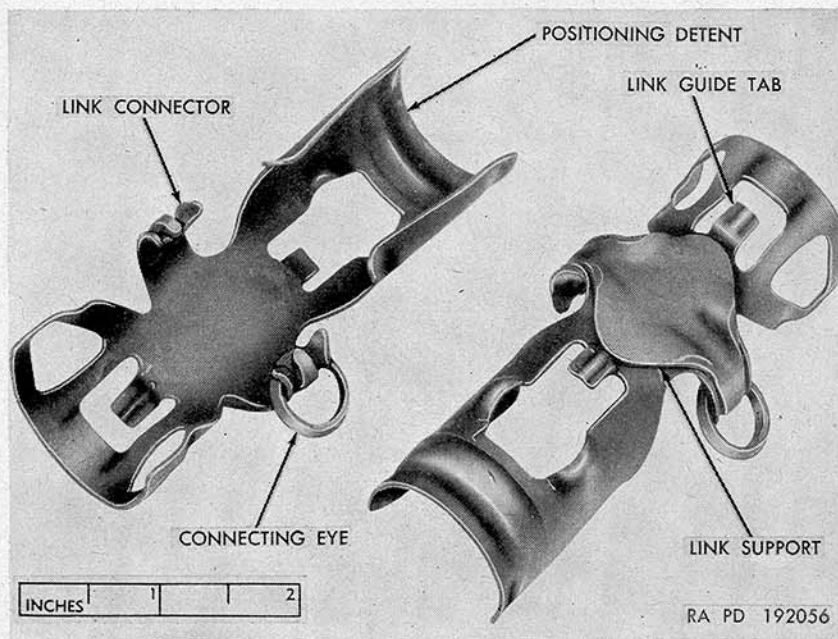
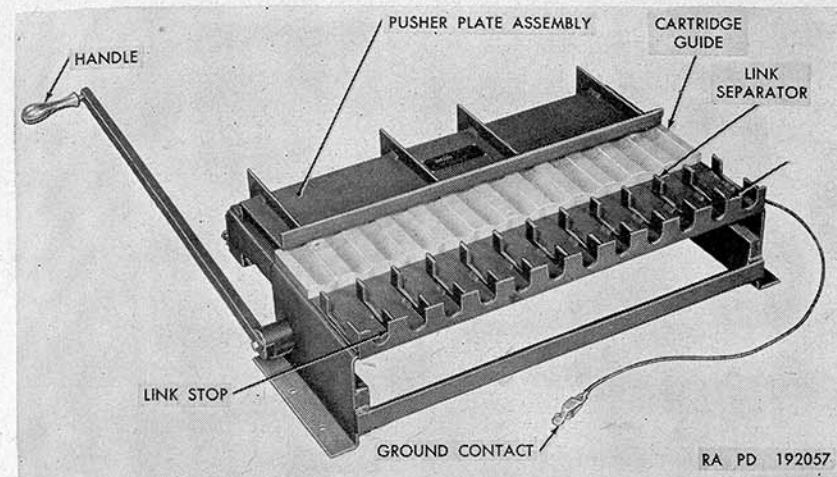
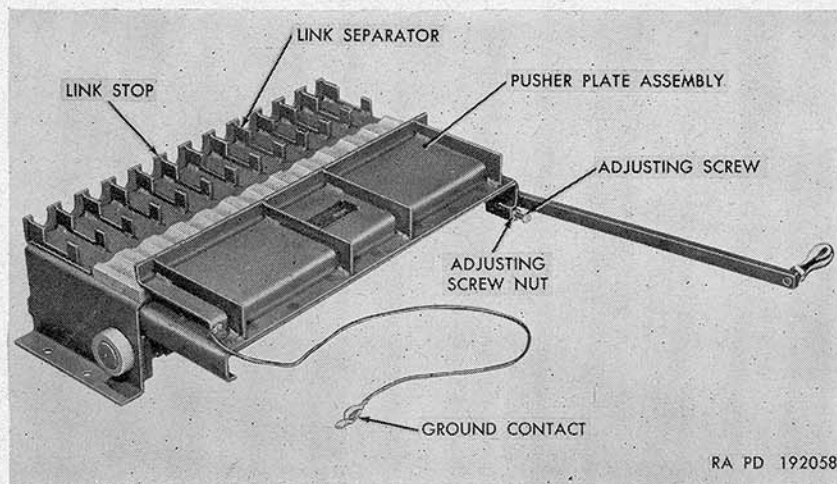

Figure 16. Metallic link T61E2—top and bottom view.
Figure 17. 20-mm and cal. .60 linking machine T38—front view.
Figure 18. 20-mm and cal. .60 linking machine T38—rear view.
a. General. Belts for the 20-mm weapon and the cal. .60 weapon are made up of metallic links T61E2 (fig. 16). There is no difference in the belting procedure for left-hand or right-hand feed. In belting for right-hand feed however, remove the connecting eye from the link of the first round. This is to prevent the possibility of a jam in the feeder sprockets. The belting operation is performed on the linking machine T38 (figs. 17 and 18).
- (1) Inspect all links for rust, dirt, or deformation. Before using, dip links in preservative lubricating oil (special) and drain off the excess. Dip a clean wiping cloth in preservative lubricating oil (special) and wring it out; oil the cartridge cases with it, being careful not to oil the primer or the point where the case is crimped to the projectile.
- (2) Connect the linking machine ground contact (figs. 17 and 18) to some suitable metallic object such as a pipe or radiator.
- (3) Lay 12 empty links T61E2 across the forward end of the linking machine so that each link is separated by a link separator (figs. 17 and 18) and bears against the link stop (fig. 18).
- (4) The connecting eyes (fig. 16) of each link, located on left side, should be hooked to the link connector of the empty link to its left. This will form a continuous belt. If it is known that the belt is to be used for right-hand feed, remove connecting eye from first link on left side of machine.
- (5) Check adjustment of linking machine before inserting rounds as follows:
- (a) Place one 20-mm or cal. .60 round in the groove of the cartridge guide (fig. 17) which is furthest to the left side of the machine.
- (b) Rotate handle (figs. 17 and 18) forward to move pusher plate assembly against cartridge, thereby forcing cartridge into link.
- (c) Continue to apply pressure to pusher plate assembly until the groove around the base of the cartridge is engaged by the positioning detent (fig. 16) of the link.
- (1) Check to see that the ammunition is properly loaded in the belt (par. 18). If the belt is going to be loaded in a right-hand feed mechanism, be sure that the connector eye (fig. 16) on the leading link is removed to avoid a possible link jam in the feeder sprockets.
- (2) Check Air Force technical orders to see that feed chute is in proper alignment and securely assembled to the feeder assembly.